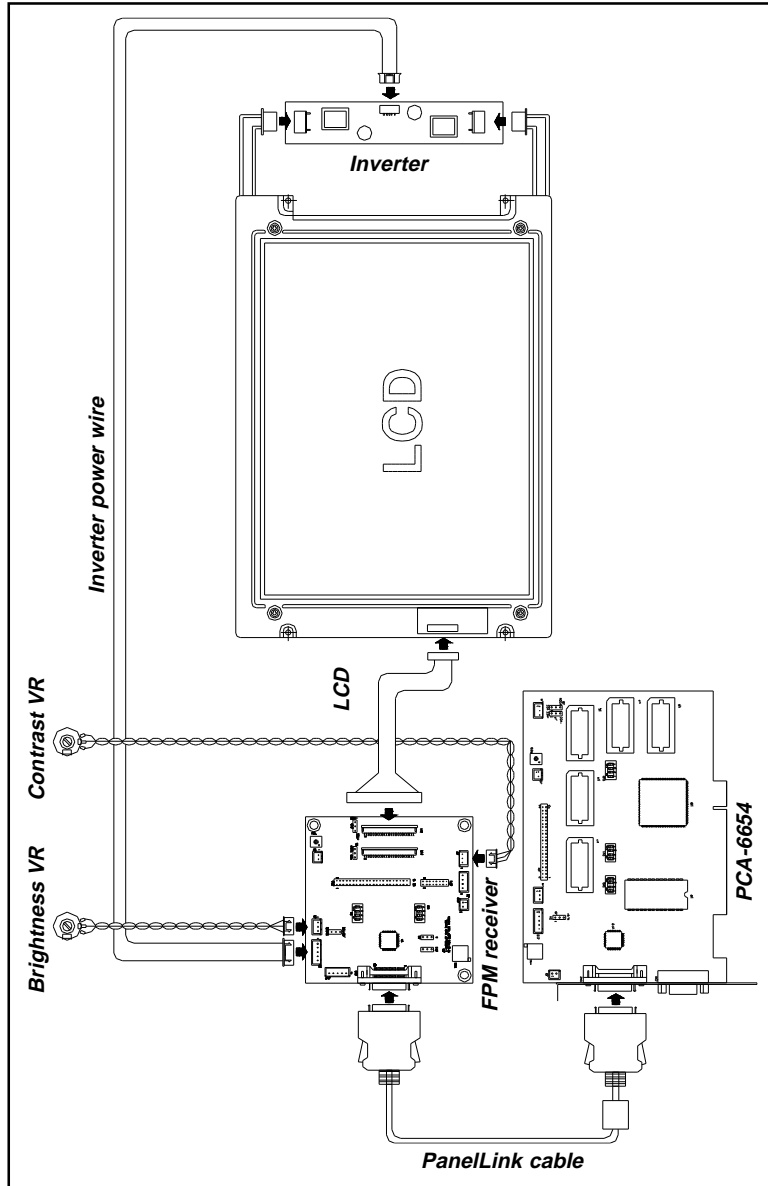

Figure 4-5: DSTN LCD setup
13. Connect the PanelLink cable, LCD cable, inverter, inverter power wire, and VR assembly with wire for brightness to J2 and for contrast to J7. (See Fig. 4-5.)